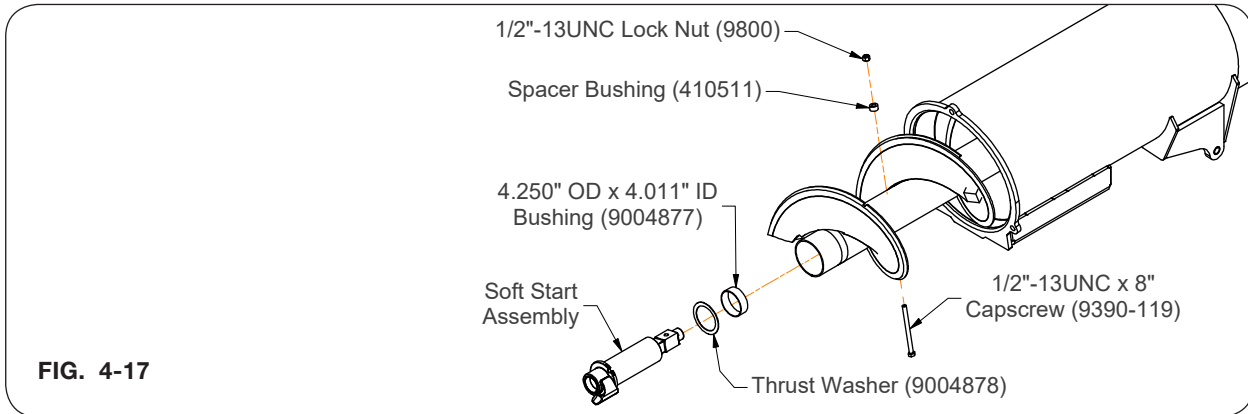

FIG. 4-17
- Retain the soft start into position with 1/2"-13UNC x 8" capscrew (9390-119), spacer bushing (410511), and 1/2"-13UNC lock nut (9800). (FIG. 4-17)